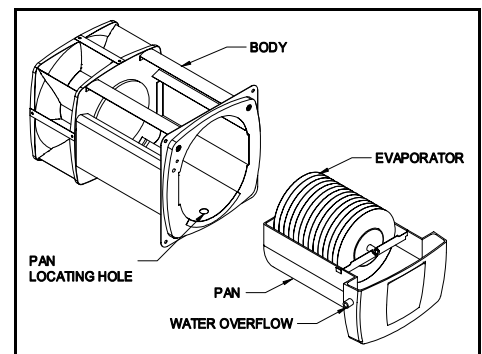

Figure 4
8. A 1/4" diameter tube should be inserted into the water overflow hole in the pan (See Figure 4) for any excess water drainage.